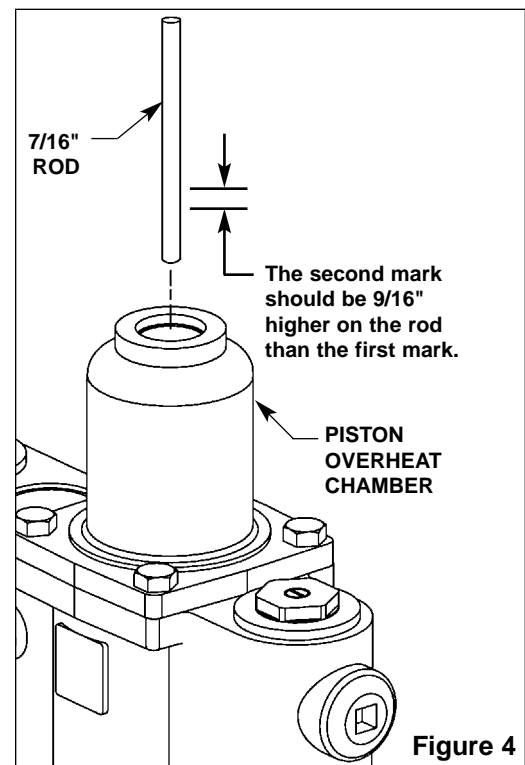

Figure 4
2. Insert a 7/16" dia. rod into the valve and into the piston overheating chamber. Mark the length of the rod inside the valve (see Figure 4).
3. Push the rod until the piston stops and mark the new length of the dowel (the new length should be approximately 9/16" longer than the original length) (see Figure 4). If the length of the dowel is not as it should be, the piston is not moving freely and needs to be cleaned along with the piston liner. Clean the piston and liner following the method outlined below: